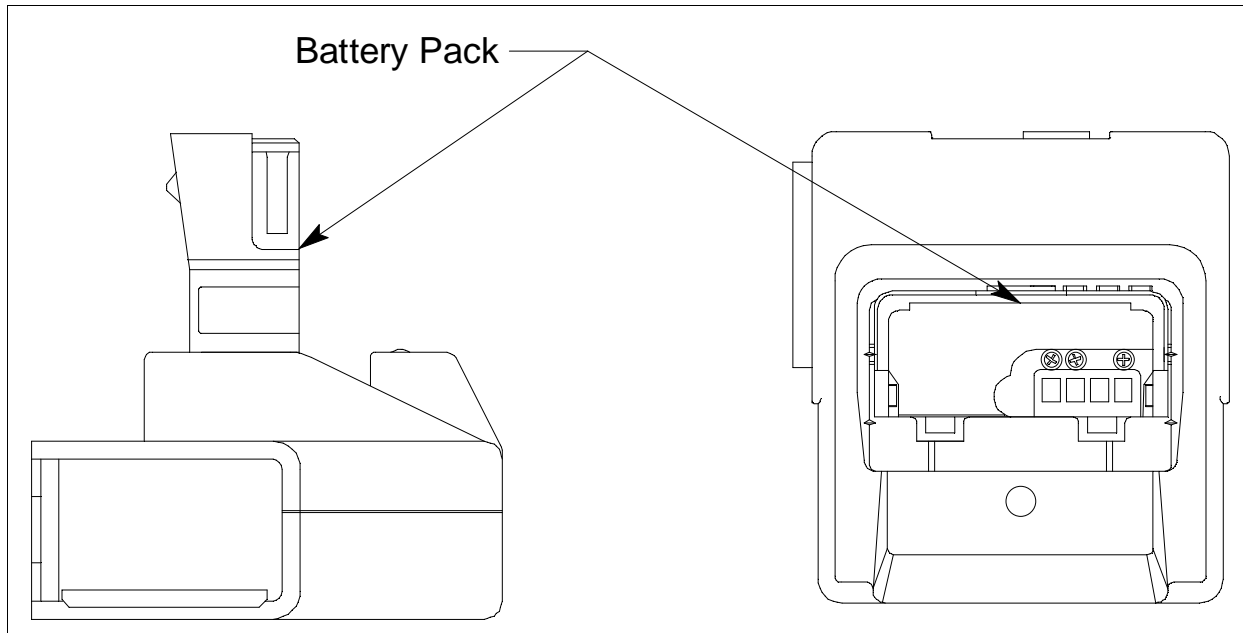

Figure 26: Putting the Battery Pack into the Charging Station
5. Insert the battery pack into the charging station as shown in Figure 26 below so that the metal contacts on the back of the battery pack come into contact with the metal contacts in the charging station. When proper contact has been made, the red LED on the charging station will turn on.